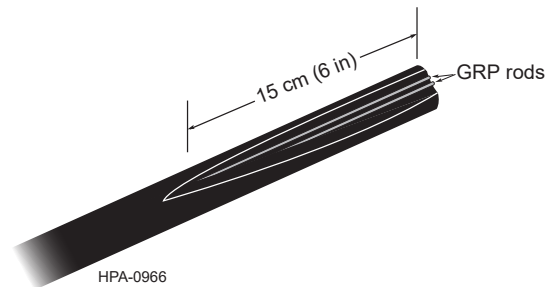

Figure 2
Step 2: Starting at the end of the cable, use the cable sheath knife to shave off 15 cm (6 in) of the outer sheath over the rods. Shave the sheath until the GRP rods and the ripcord on each side of the cable are visible (Figure 2).